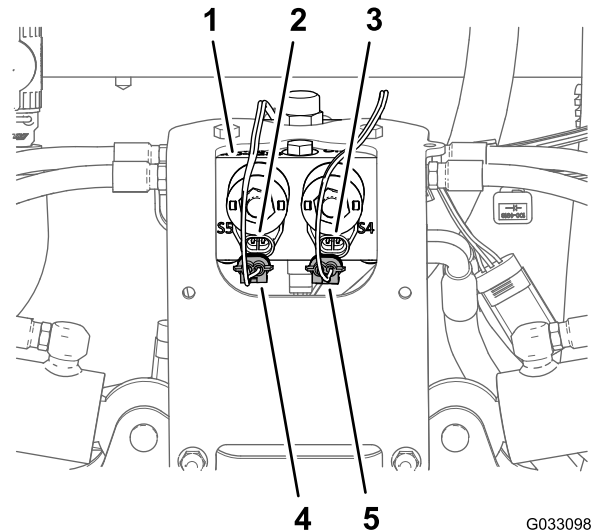

Figure 31
1. Disconnect the 2-pin connector of the sonic boom wire harness from the 2-pin connector of the right cylinder-enable solenoid of the lift-cylinder manifold (Figure 31).
2. Disconnect the 2-pin connector of the sonic boom wire harness from the 2-pin connector of the left cylinder-enable solenoid of the lift-cylinder manifold (Figure 31).